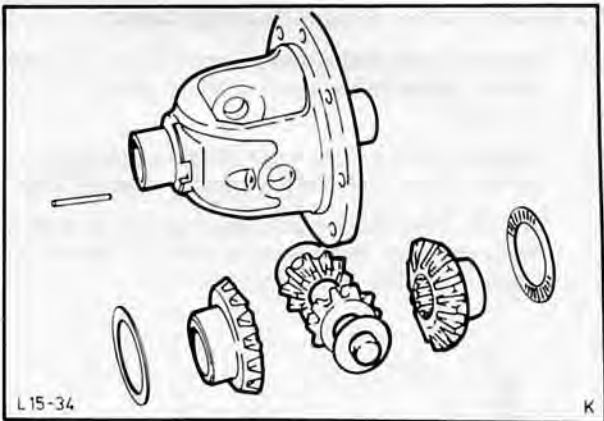

Fig. 105. Differential gear train exploded
- 9. Remove differential gears and side gears from differential housing, Fig. 105. Separate halves of housing with a copper mandrel, lift out the differential gears with differential cross or shaft and side gears. Remove shims.